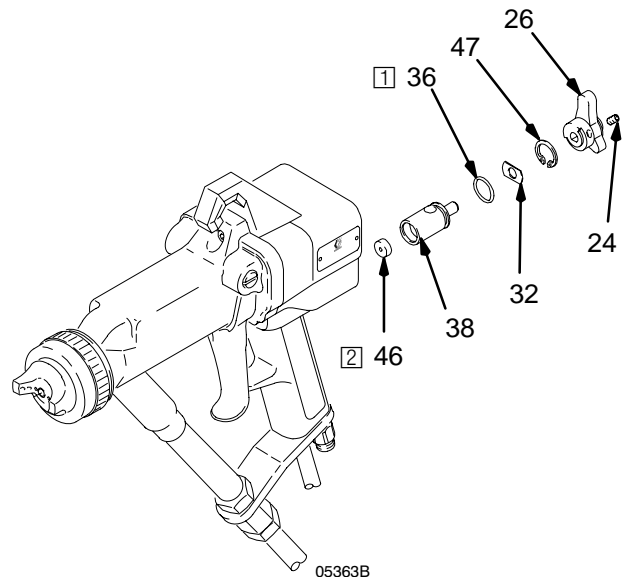

Fig. 24
2. Loosen the set screw (24) with the 2 mm hex key (69). Remove the lever (26) from the valve. See Fig. 24.